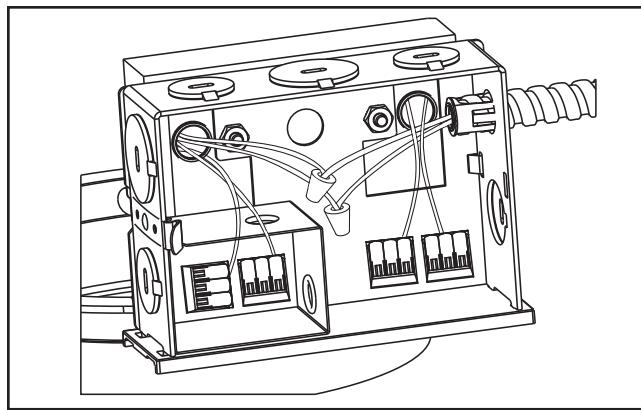

Figure 27
1. Provide electrical service according to the "National Electrical Code" or your local electrical code to the junction box (located on the plaster frame). Supply wire insulation must be rated for at least 90°C. The junction box is listed for (4) #12 AWG (two in, two out) 90°C conductors and feed thru branch wiring for type IC and Plug in drivers for 120/277V only. For all other cases (8) #12 AWG (four in, four out) 90°C conductors and feed thru branch wiring for 120/277V only.
2. Remove junction box cover (Figure 27).
4. Connect supply lead wires to junction box lead wires (line, neutral and ground) in the fixture using the provided lever nut connectors. (Figure 27). Be careful not to leave any bare conductors outside of the lever nut connectors.